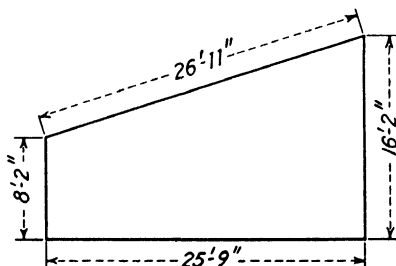

Fig. 56.
10. Find the total length in feet of a fence needed to enclose the plot of ground shown in Fig. 56.